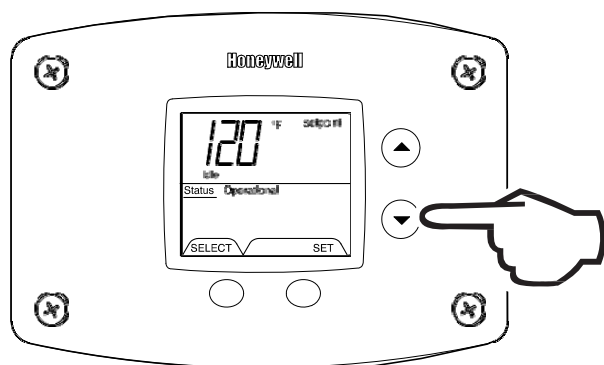

Fig. 28
1. Depress and hold 'Temperature Down' button until desired setpoint temperature appears in the display (Fig. 28).